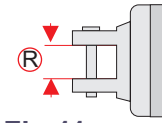

Fig.11
- R: ( Fig 11 ) Available width for webbing  mm
- S: ( Fig 11 ) Available width for fitting  mm